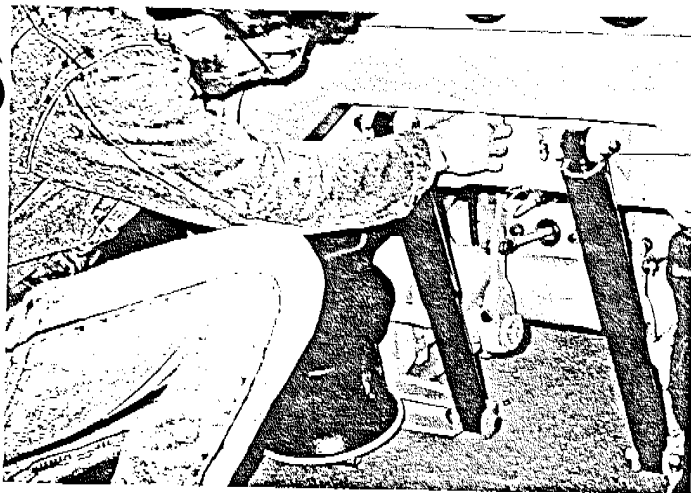

FIGURE 1
3. **BEFORE REMOVING TRACTOR** open both air valves on rear of trailer and exhaust all air from bags. (See Figure 1).